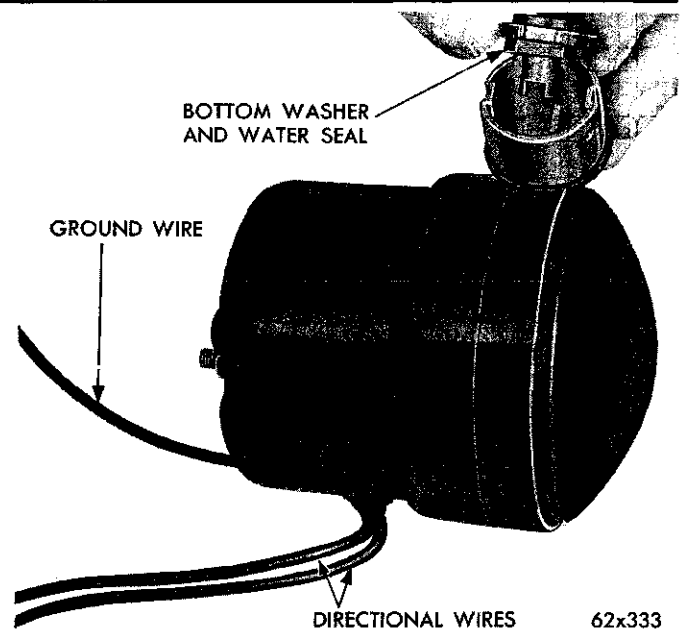

Fig. 5—Removing Bottom Insulator and Water Seal Washer
(7) Remove the bottom insulator and water seal washer (Fig. 5) from the tubular fitting using a wire hook and long nose pliers.